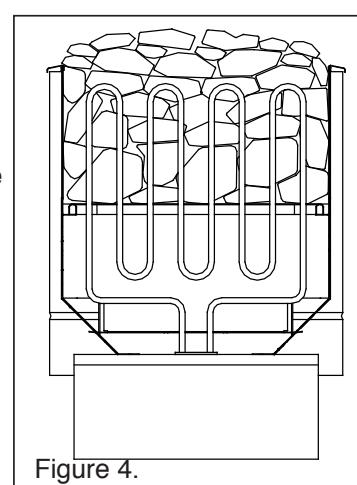

Figure 4.
- The stones must cover the heating resistors completely (Figure 4).